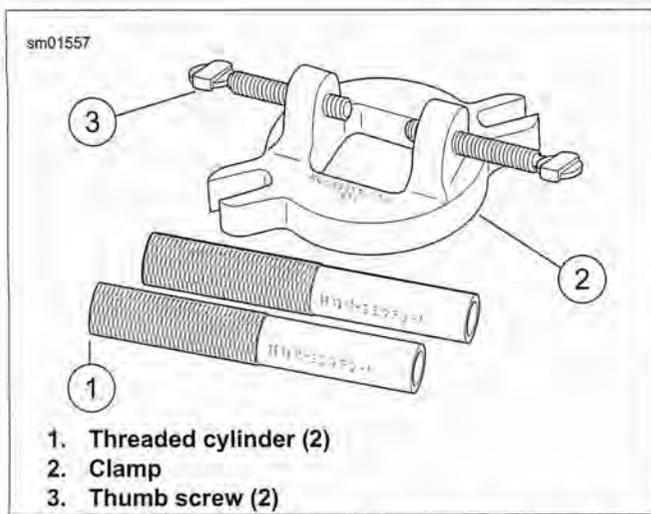
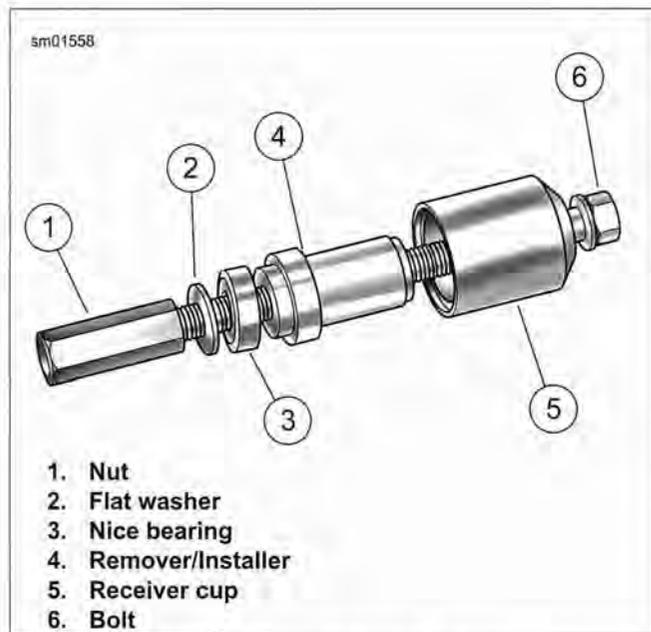

Figure 3-83. Connecting Rod Clamping Tool (Part No. HD-95952-33C)
Figure 3-84. Connecting Rod Bushing Remover/Installer (Part No. HD-95970-32D)
1. See Figure 3-83. Obtain the CONNECTING ROD CLAMPING TOOL and install as follows:
- a. Slide clamp (2) over connecting rod so that slots engage cylinder head studs. Exercise caution to avoid scratching or bending studs.
- b. With the knurled side up, screw threaded cylinders (1) onto studs to secure position of clamp.
- c. Alternately turn each clamp thumbscrew (3) a few turns to gradually fix position of connecting rod. Turning only one thumbscrew will move rod off-center, while tightening second thumbscrew can cause rod to flex or bend.
3. See Figure 3-84. Obtain the CONNECTING ROD BUSHING REMOVER/INSTALLER (Part No. HD-95970-32D).
- a. Sparingly apply graphite lubricant to threads of bolt (6) to prolong service life and provide smooth operation.
- b. Slide receiver cup (5) onto bolt with the closed side facing bolt head.
- b. See Figure 3-84. Slide Nice bearing (3) and flat washer (2) onto bolt (6) until they contact remover/installer (4).
- c. Thread nut (1) onto bolt until assembly is snug.
1. See Figure 3-84. Obtain the **CONNECTING ROD BUSHING REMOVER/INSTALLER** (Part No. HD-95970-32D).